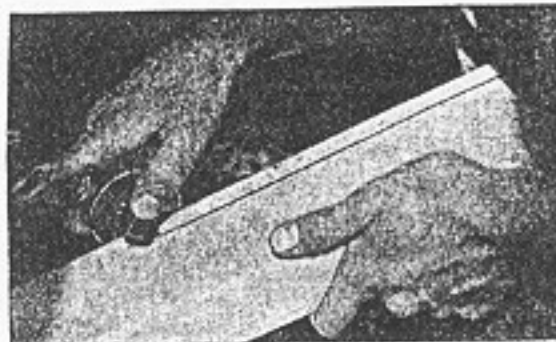

Fig. 43. Gauging with a marking gauge.
2. The marking gauge is held firmly in the right hand, the head is pressed against the edge of the board to be marked, the gauge is tipped forward until the spur just touches the wood, and a line is marked by moving the gauge away from the worker (Fig. 43). It is important that the spur takes hold gradually, that it is sharp, and that it does not project too far.